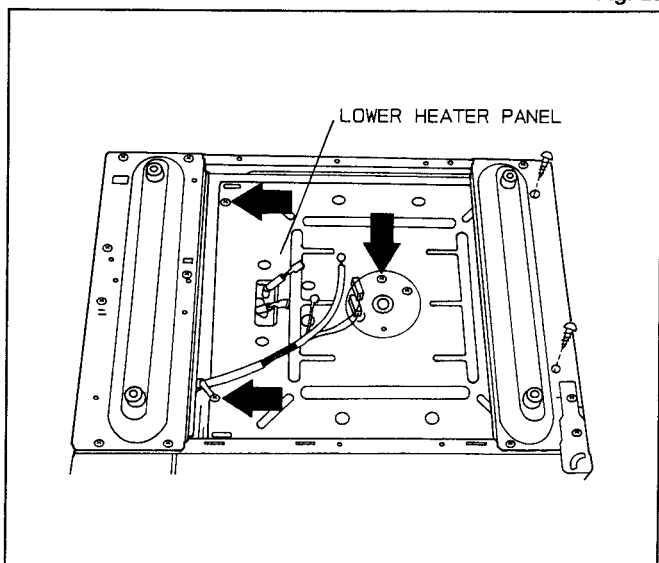

Fig. 30
- (F) Remove the motor bracket by removing 3 screws. (Fig. 30)